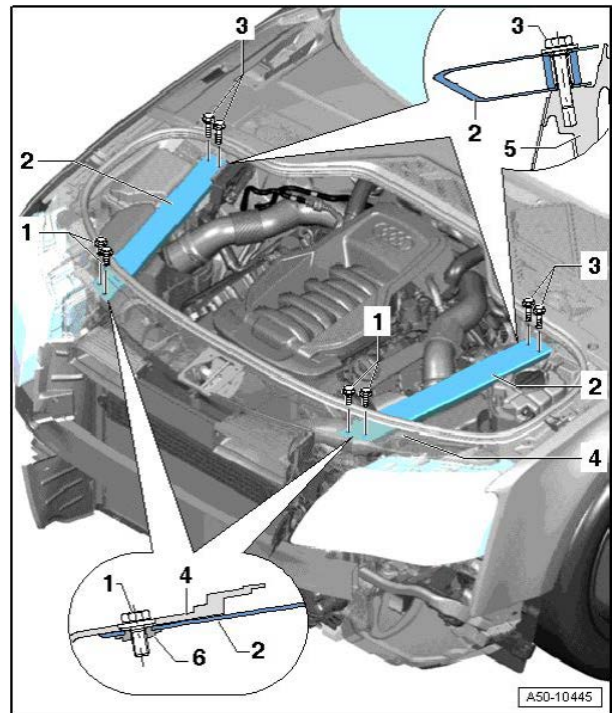
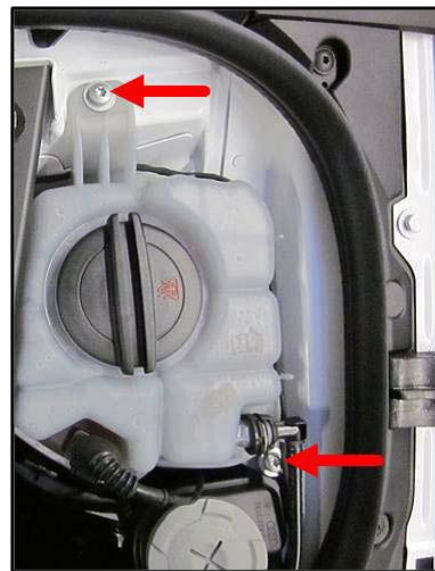

Figure 2. Longitudinal member removal
Figure 3. Front and rear bolts.
2. Remove longitudinal member (left side) by unscrewing bolts at front and rear (Figure 2) and lifting it out. (Tightening torque: 24 Nm) Then, remove bolts (Figure 3).